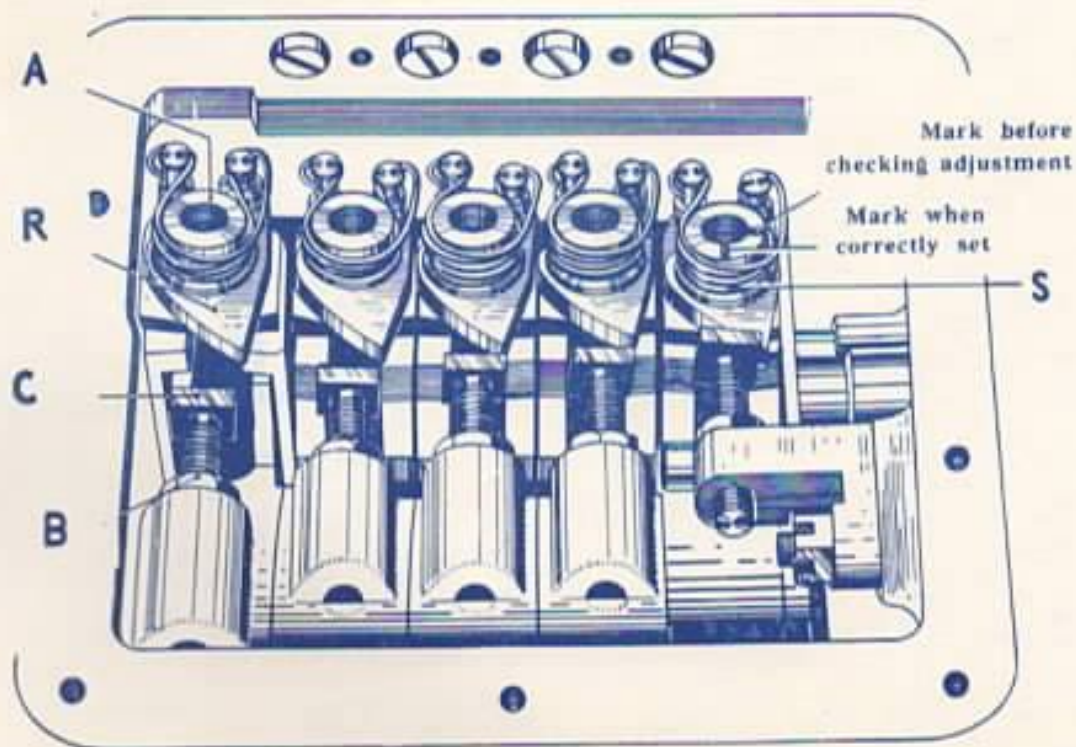

FIGURE 4
To obtain the correct gear setting the following adjustments should be made, in the order set out below. The lettering of the parts can be referred to in Figure 4.
- 2 Disengage reverse gear (select and engage top gear) mark reverse gear automatic adjusting nut, see Figure 4, and unscrew 90°, refit automatic adjusting spring "S".